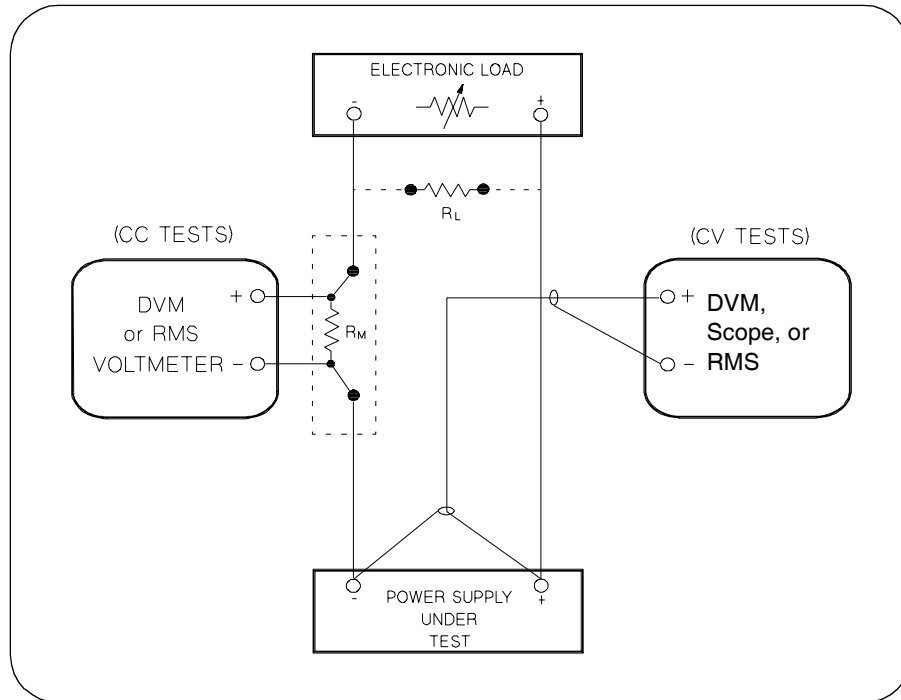

Figure A-1 Performance Verification Test Setup
Most tests are performed at the front terminals as shown in Figure A-1. Measure the dc voltage directly at the (+) and (-) terminals on the front panel.
To eliminate output current measurement error caused by the voltage drops in the leads and connections, connect the current monitoring resistor between the (-) output terminal and the load as a four-terminal device. Connect the current-monitoring leads inside the load-lead connections directly at the monitoring points on the resistor element (see R_M in Figure A-1).
- 1 Turn off the power supply and connect a digital voltmeter between the (+) and (-) terminals of the output to be tested as shown in Figure A-1.
- 1 Turn off the power supply and connect a digital voltmeter between the (+) and (-) terminals of the output as shown in Figure A-1.
- 6 Adjust the transformer to high line voltage (127 Vac for nominal 115 Vac, 110 Vac for nominal 100 Vac, or 253 Vac for nominal 230 Vac). Record the voltage reading on the digital voltmeter immediately. The difference between the digital voltmeter readings in steps (5) and (6) is the CV line regulation. The difference of the readings during the immediate change should be within the limit of (5 mV)* or (9 mV)**.
- 7 Repeat steps (1) through (6) for the other output.
- 1 Turn off the power supply and connect the output to be tested as shown in Figure A-1 to an oscilloscope (ac coupled) between (+) and (-) terminals. Set the oscilloscope to AC mode and bandwidth limit to 20 MHz. Connect a resistive load ($13.5\ \Omega$)[‡] to the terminal at (B) as shown above.
- 6 Repeat steps (1) through (5) for the other output.
- 1 Turn off the power supply and connect the output to be tested as shown in Figure A-1 with an oscilloscope. Operate the electronic load in constant current mode.
- 1 Turn off the power supply and connect a 0.01 Ω current monitoring resistor (R_{M1}) across the output to be tested and a digital voltmeter across the current monitoring resistor (R_{M1}) as shown in Figure A-1.